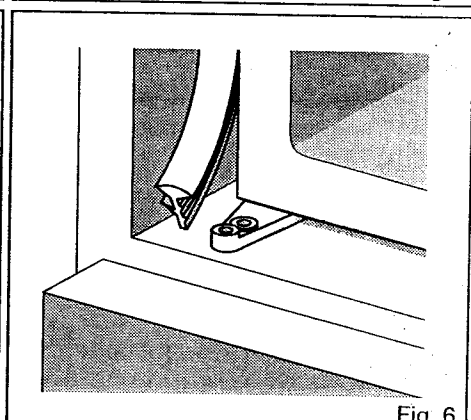

Fig. 6
- Seal the gap on the opposite side of the hinge with the enclosed seal (Fig. 6).